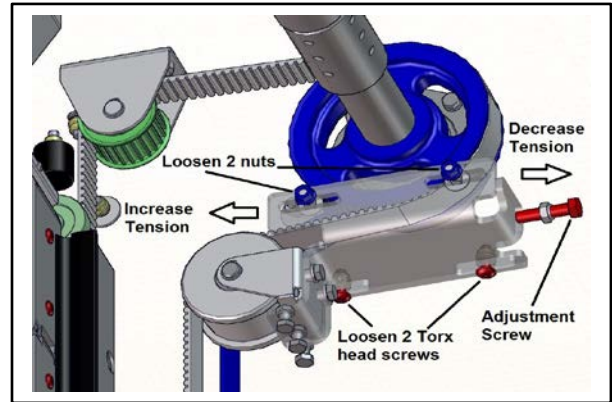

Figure 55
5. Release the tension from the secondary drive belt by moving the trolley bracket at the top of the side column away from the wall. (See Figure 55.)